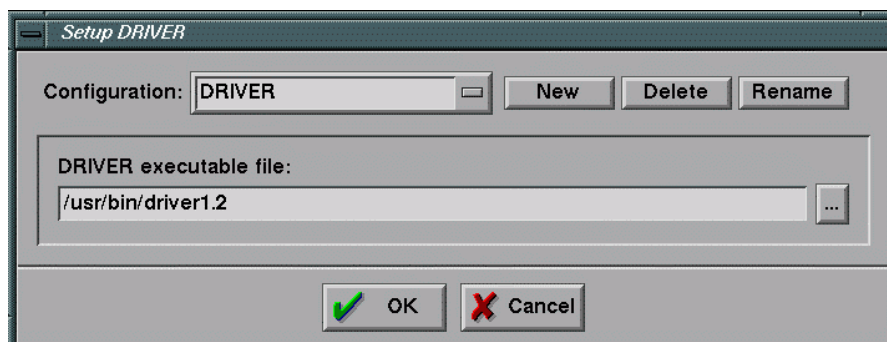

Fig 8.4 Window for setup of DRIVER
4. Configure DRIVER in *Setup DRIVER* window (**Fig 8.4**). Choose the version of your DRIVER program. Next, specify the location of the executable files of DRIVER on your system. Special configurations for various versions of DRIVER and the position of its executable file on various machines can be saved and restored by user.